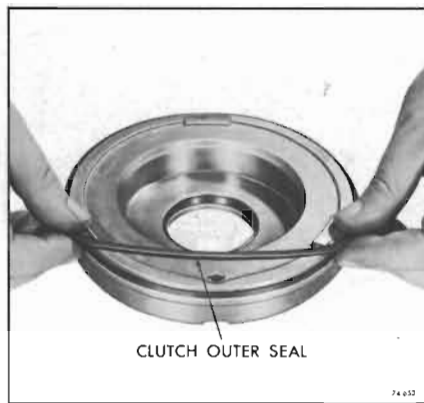

Figure 74-653
9. Remove the inner and outer clutch piston seals. See Figure 74-653 and 74-654.